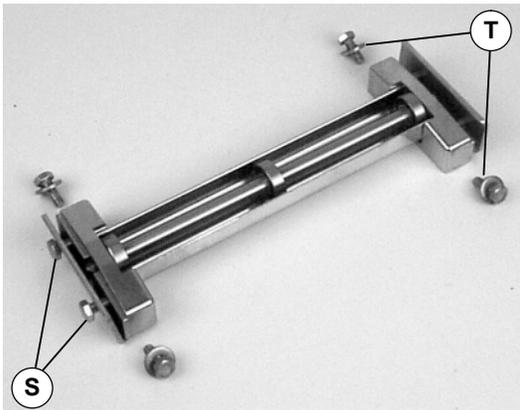

Figure 16
2. Loosen screws (S of Figure 16) and remove screws and washers (T).